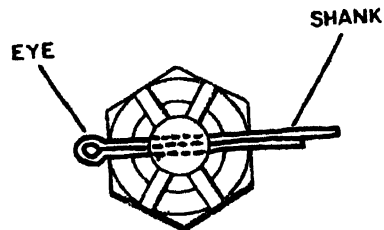

FIGURE 10
*The eye of the cotter pin should be snug against the castellation. See figure 10.